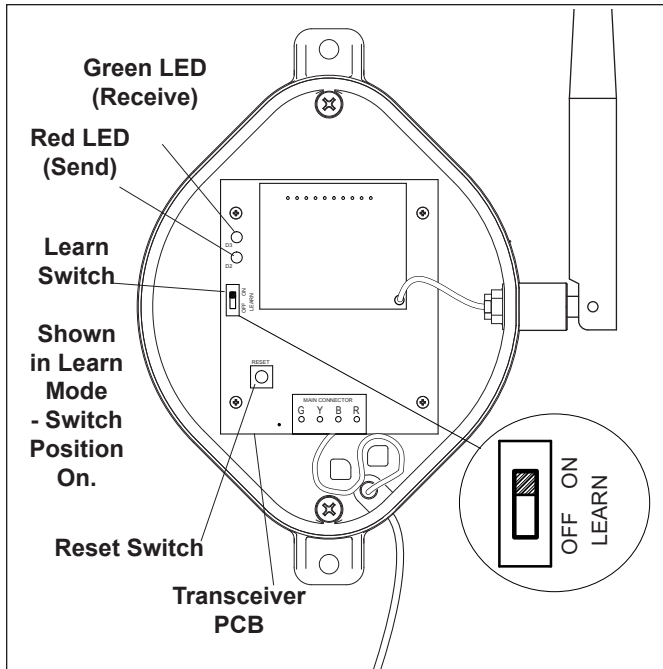

Figure 8. Tranceiver J-box PCB Learn Switch
5. At the PCB in the Transceiver J-box, slide the Learn Switch to LEARN (ON). See Figure 8.
- On the AquaPalm Handheld Remote display screen, a prompt will appear with instructions to slide the J-box Learn Switch out of LEARN (OFF) and to press the J-box Reset Switch (see Figure 8).
- At the PCB in the Transceiver J-box, slide the Learn Switch out of LEARN (ON) and press the Reset Switch. The Red and Green LEDs on the J-box will blink simultaneously (see Figure 8).